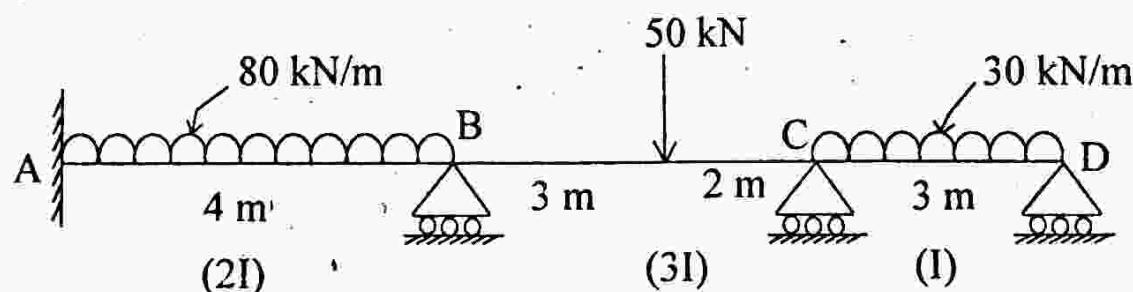

Fig. 3
3. Analyse the continuous beam in Fig. 3 by Moment distribution method. Draw B.M.D.